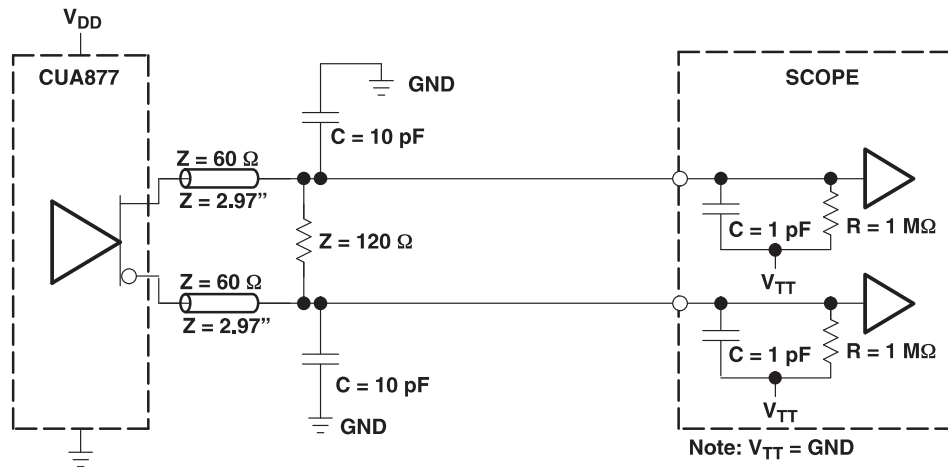
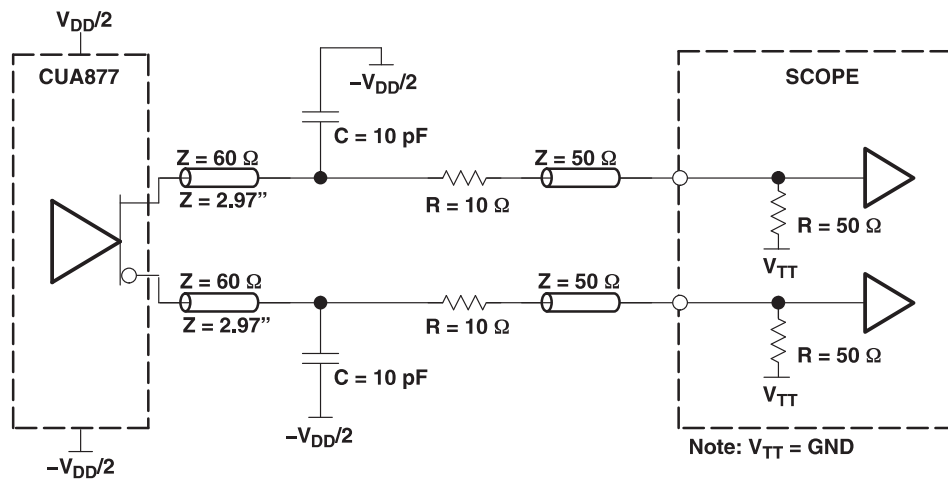
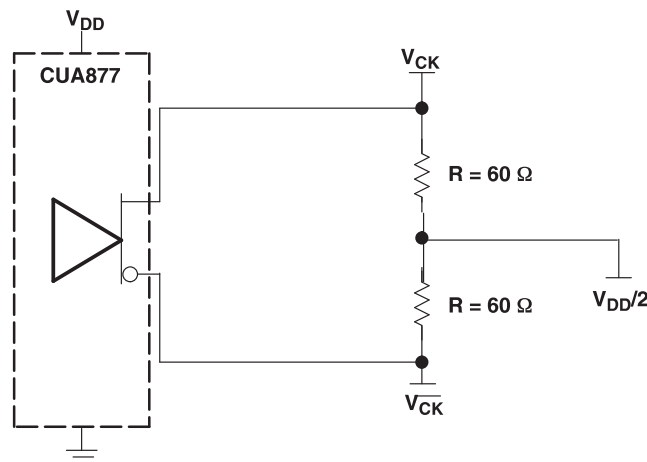

Figure 2. Output Load Test Circuit 1 (Using High-Impedance Probe)
Figure 3. Output Load Test Circuit 2 (Using SMA Coaxial Cable)
Figure 4. IBIS Model Output Load
- (1) There are two different terminations that are used with the following tests. The load/board in Figure 2 is used to measure the input and output differential-pair cross voltage only. The load/board in Figure 3 is used to measure all other tests. For consistency, equal length cables must be used.
- (2) This parameter is assured by design and characterization.
- (3) Phase static offset time does not include jitter.
- (4) For full frequency range of 160MHz to 410MHz.
- (5) Period jitter, half-period jitter specifications are separate specifications that must be met independently of each other.
- (6) In the frequency range of 271 MHz to 410 MHz, the minimum and maximum values of $t_{jit(per)}$ and $t_{(\phi)dyn}$ and the maximum value for $t_{sk(o)}$ must not exceed the corresponding minimum and maximum values of the 160 MHz to 270 MHz range. In addition, the sum of the specified values for $|t_{jit(per)}|$, $|t_{(\phi)dyn}|$, and $t_{sk(o)}$ must meet the requirements for the $\Sigma t_{(su)}$ and the sum of the specified values for $|t_{(\phi)dyn}|$ and $t_{sk(o)}$ must meet the requirements for the $\Sigma t_{(h)}$.
- (7) The output slew rate is determined from the IBIS model into the load shown in Figure 4.
- (8) To eliminate the impact of input slew rates on static phase offset, the input skew rates of reference clock input CK and \bar{CK} and feedback clock inputs FBIN and \bar{FBIN} are recommended to be nearly equal. The 2.5-V/ns skew rates are shown as a recommended target. Compliance with these typical values is not mandatory if it can adequately shown that alternative characteristics meet the requirements of the registered DDR2 DIMM application.
- (9) Output differential-pair cross voltage specified at the DRAM clock input or the test load.